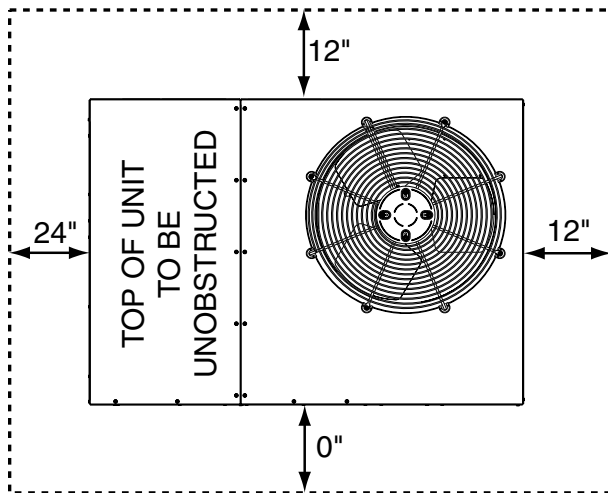

Figure 1. Minimum Unit Clearances
- Sufficient clearance for unobstructed airflow through the outdoor coil must be maintained in order to achieve rated performance. For minimum clearances to obstructions, see Figure 1.
Minimum clearances MUST be maintained from adjacent structures to provide room for proper servicing and air circulation. DO NOT install unit in a confined or recessed area that will allow discharge air from the unit to re-circulate into the condenser air inlet, through the coil. See Figure 1.